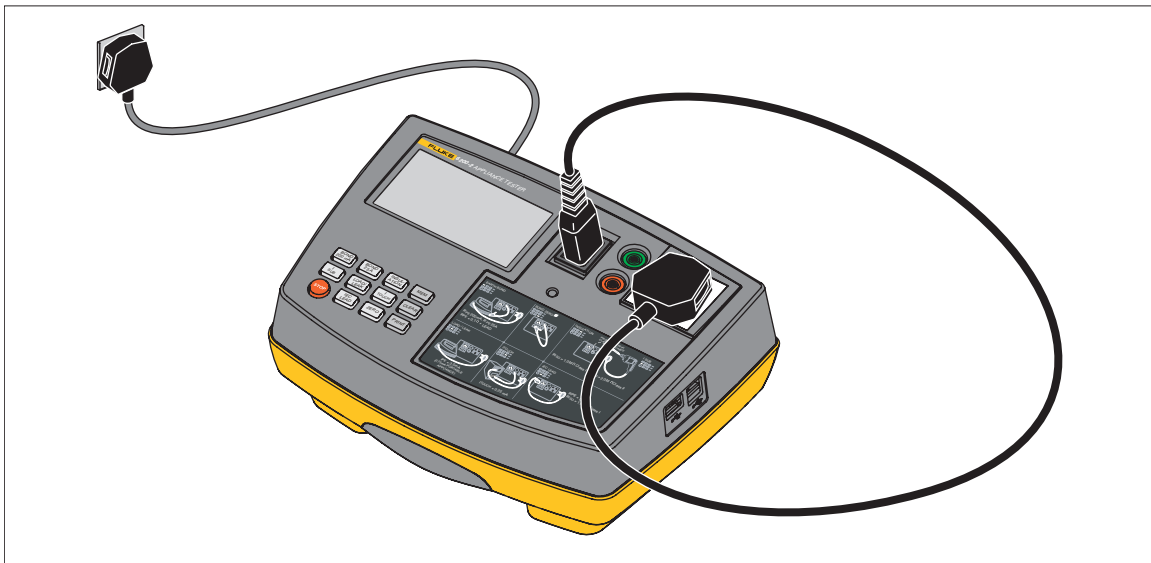

Figure 6. IEC-Lead Test Connections
1. Connect the IEC lead as indicated on the Tester, see Figure 6.